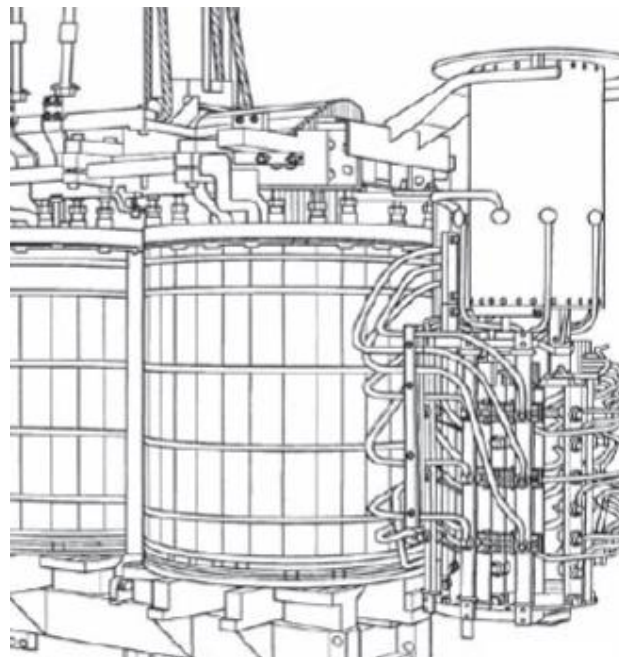

Figure 14
4.2 Installation of on-load tap-changer on bell-type transformer (Fig. 14)